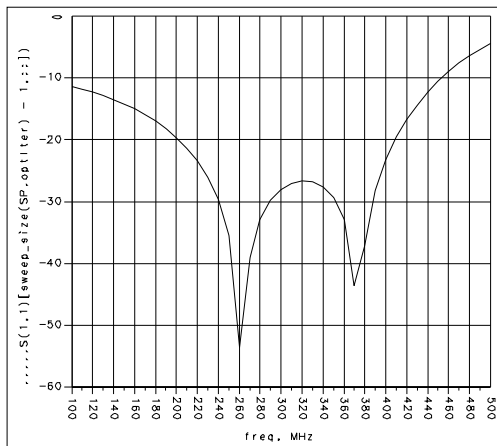

Figure 2-7. Results After 18 Iterations Using Gradient Optimizer
- Figure 2-7 shows the results of selecting 100 iterations of the Gradient optimizer on this circuit. The optimizer terminated due to a zero gradient, or minimum, in the error function after 18 iterations.